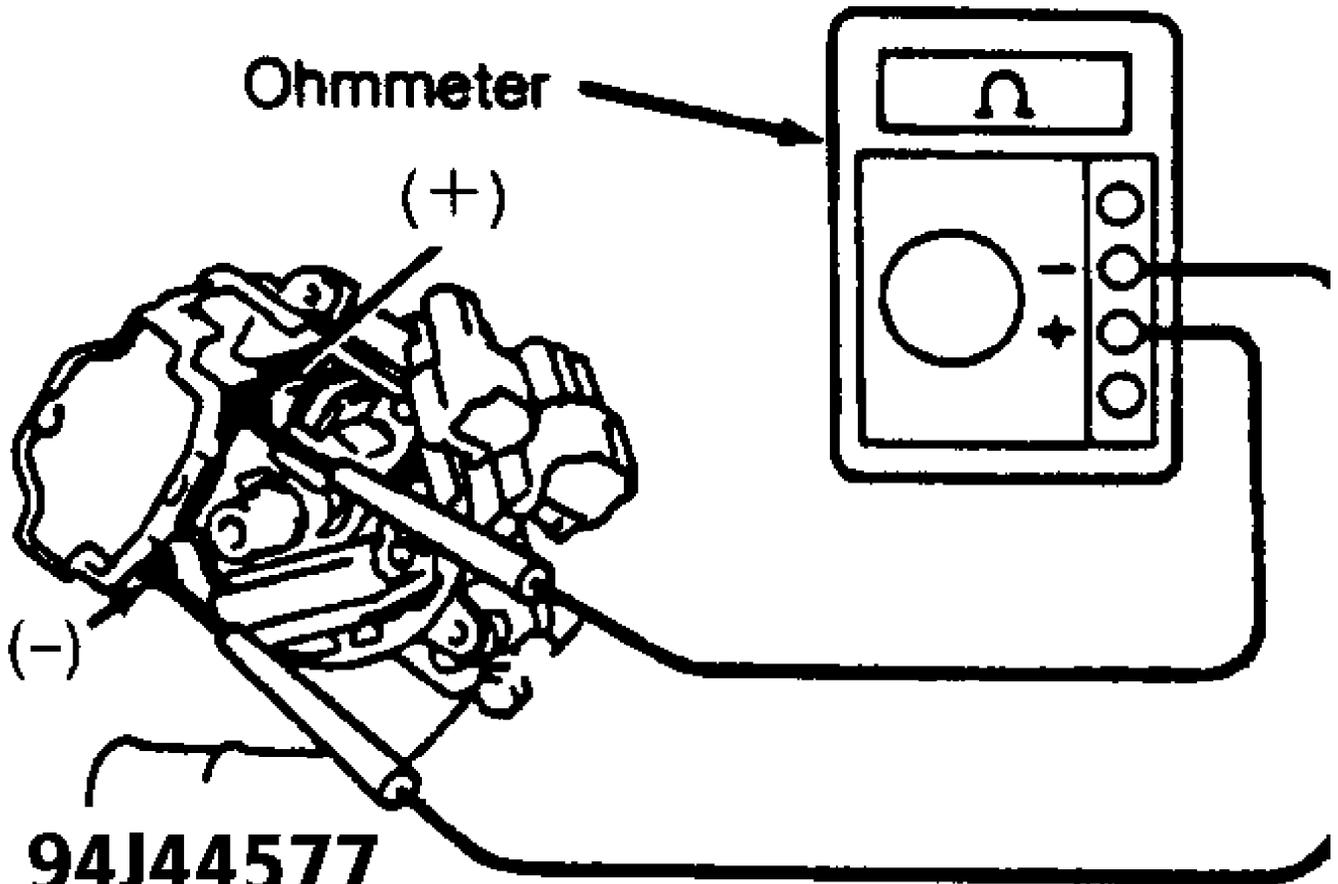

Fig. 4: Checking Ignition Coil Primary Resistance (1.8L)
1) Disconnect wiring from ignition coil so ignition coil is isolated from system. Using ohmmeter, check primary resistance between ignition coil positive (+) and negative (-) terminals. See Figs. 4 and 5.